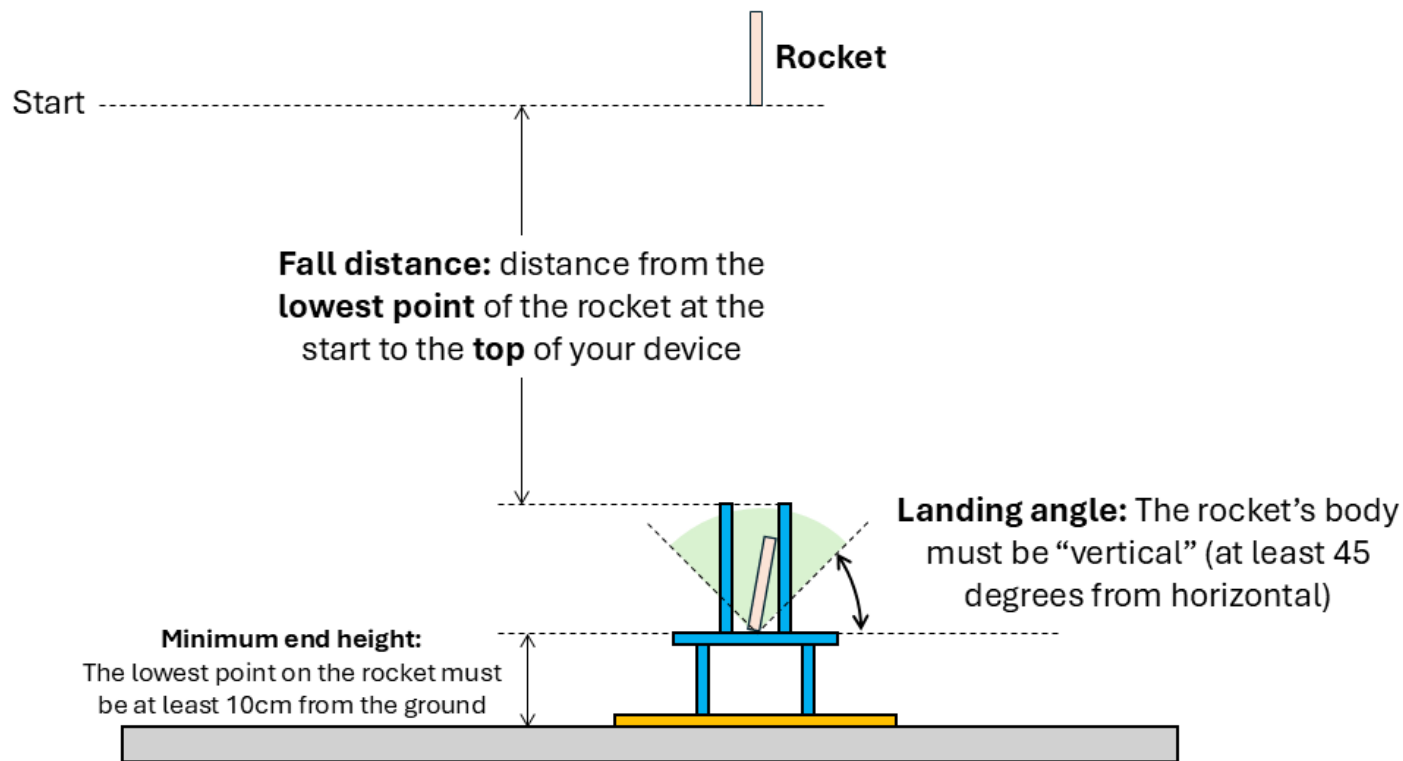

Figure 1. Diagram for challenge setup and measuring distances and the landing angle.
8. After all parts have completely stopped moving, the lowest point of the rocket, including all attachments, must be at least 10 cm from the floor, as shown in Figure 1.
9. After all parts have completely stopped moving, the rocket's main body must be vertical. "Vertical" is defined as an angle at least 45 degrees from horizontal, as shown in Figure 1.
To submit your score, you will need to measure your rocket's fall distance. As shown in Figure 1, this is the vertical distance between the topmost point of your rocket-catching device and the lowest point of the rocket at the start. There are two ways to find this distance: